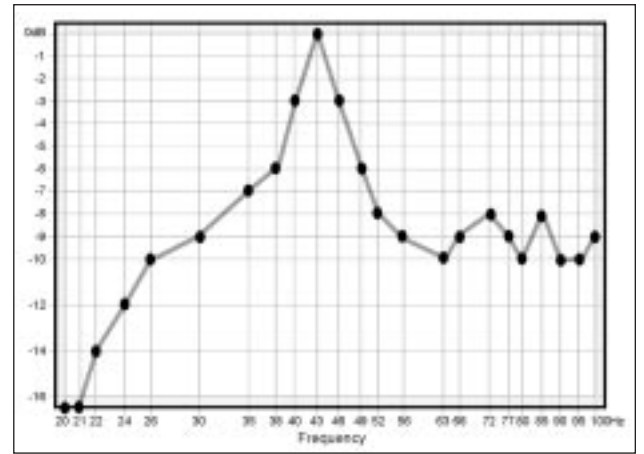

FIGURE 25
1. Select a new test position: Cue the test track corresponding to the center frequency of the dip. In the first example in Figure 25, you would play Track 13 (56Hz). Press **Play** ►. You will see a reading very close to what you had before. Now, slowly move the RSLM around the area, if possible remaining within about a foot of the original test point. As you move the RSLM, watch the bar graph. You will observe large level fluctuations. Find a position that restores the level to approximately that of the adjacent test points. You may find it helpful to move the RSLM vertically. Dips can be oriented in any axis. The position that restores the level to about that of the adjacent test points is your new test position.